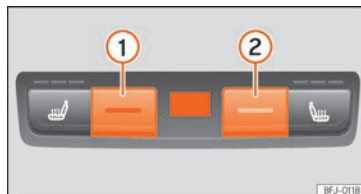

Fig. 145 In the rear part of the centre console: controls for the rear seats.
- Press buttons ① and ② »» Fig. 145 to adjust the temperature.